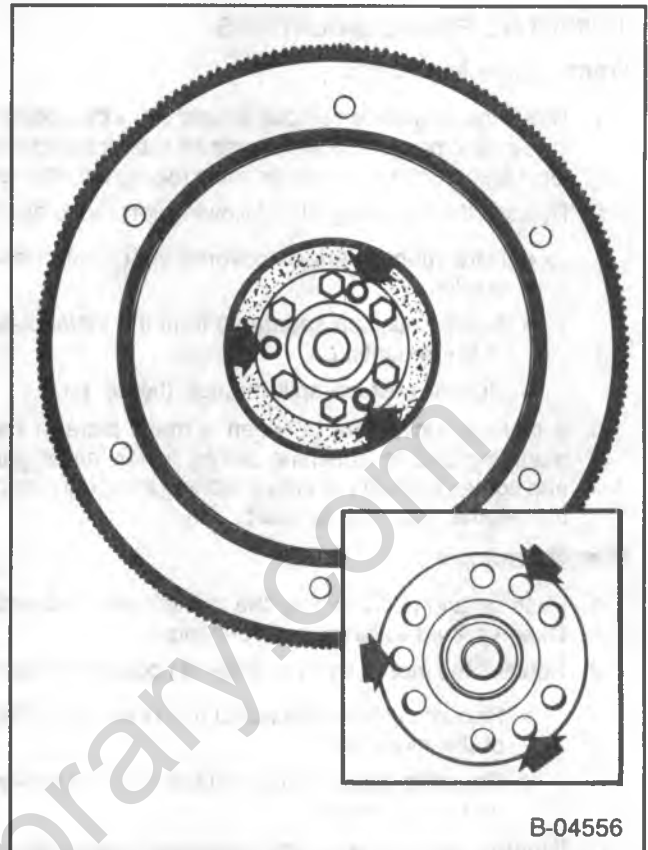

Figure 40 — Flywheel Dowel Pin Hole Locations
↔ Remove or Disconnect (Figure 40)
- Mark the flywheel and crankshaft so the dowel pin holes can be aligned in their original positions at assembly (figure 40).
↔ Install or Connect (Figure 40)